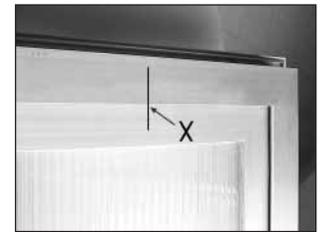

Fig. 7
- B. Pencil in an "X" over the centre line of the window frame (Fig. 7) or divide the frame in 3 parts in case of Kato Syncro mounting.